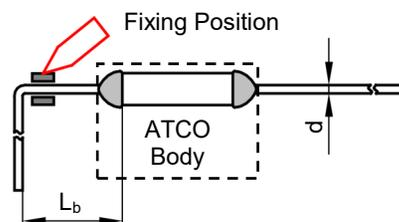

FIGURE H-2
2. When bending leads, please use pincher or similar tools to fix the product as shown in Fig.H-2, to avoid damaging the product.